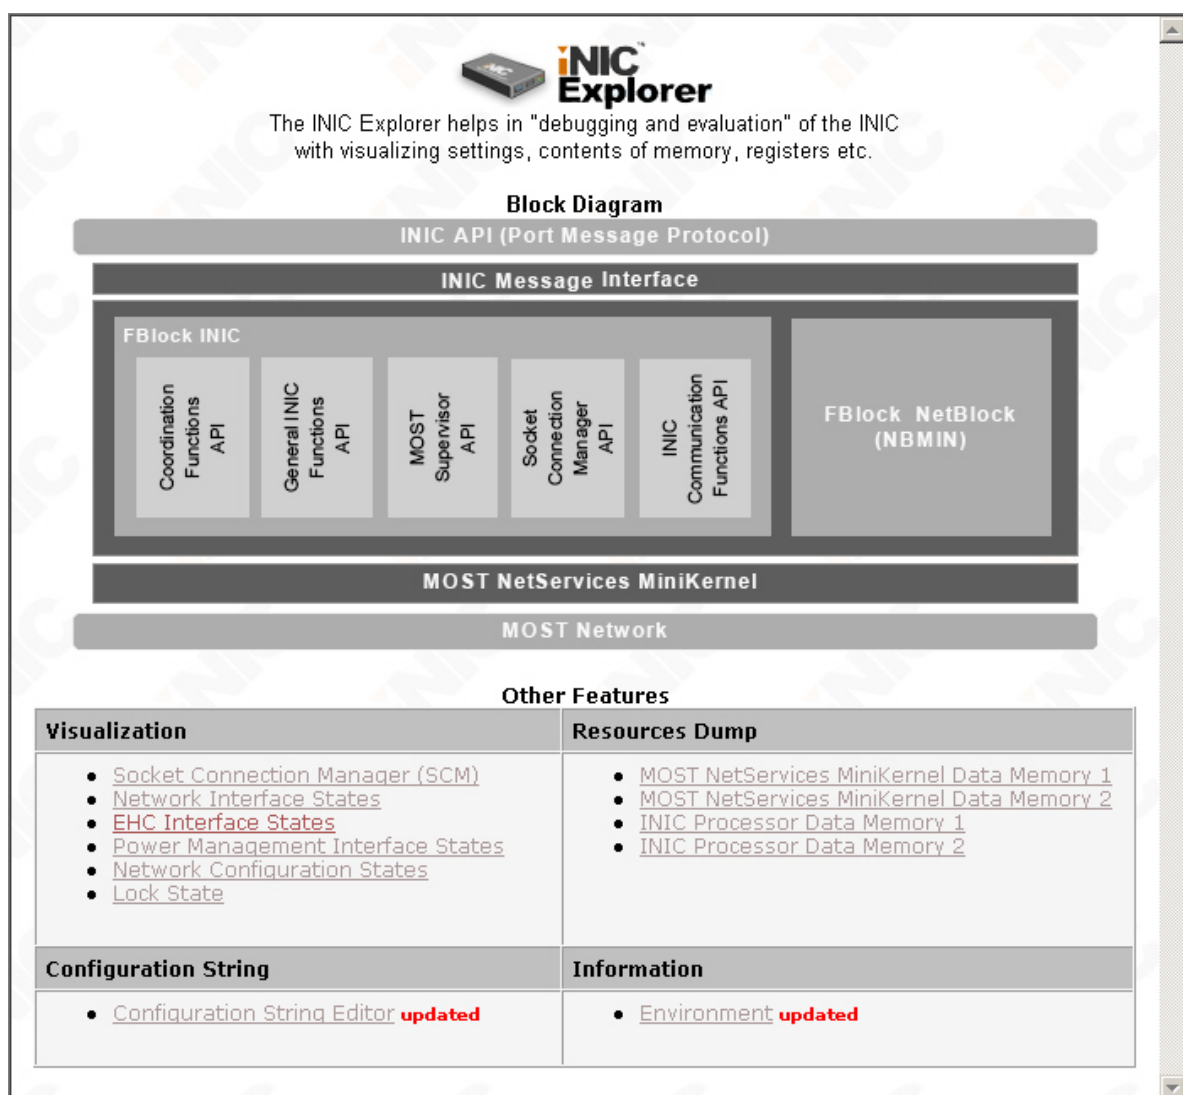

Figure 2-41: Start Page of the INIC Explorer Software (e.g.)
- **Navigation pages**¹¹ like the start page of the INIC Explorer Software or the different Resources pages¹². These pages present a short description of the page at the top and hyperlinks to navigate to pages with detail information. For example Figure 2-41 depicts the start page of the INIC Explorer Software when an OS81050 INIC is evaluated. In addition, the start page highlights new or updated functionalities of the INIC Explorer Software.